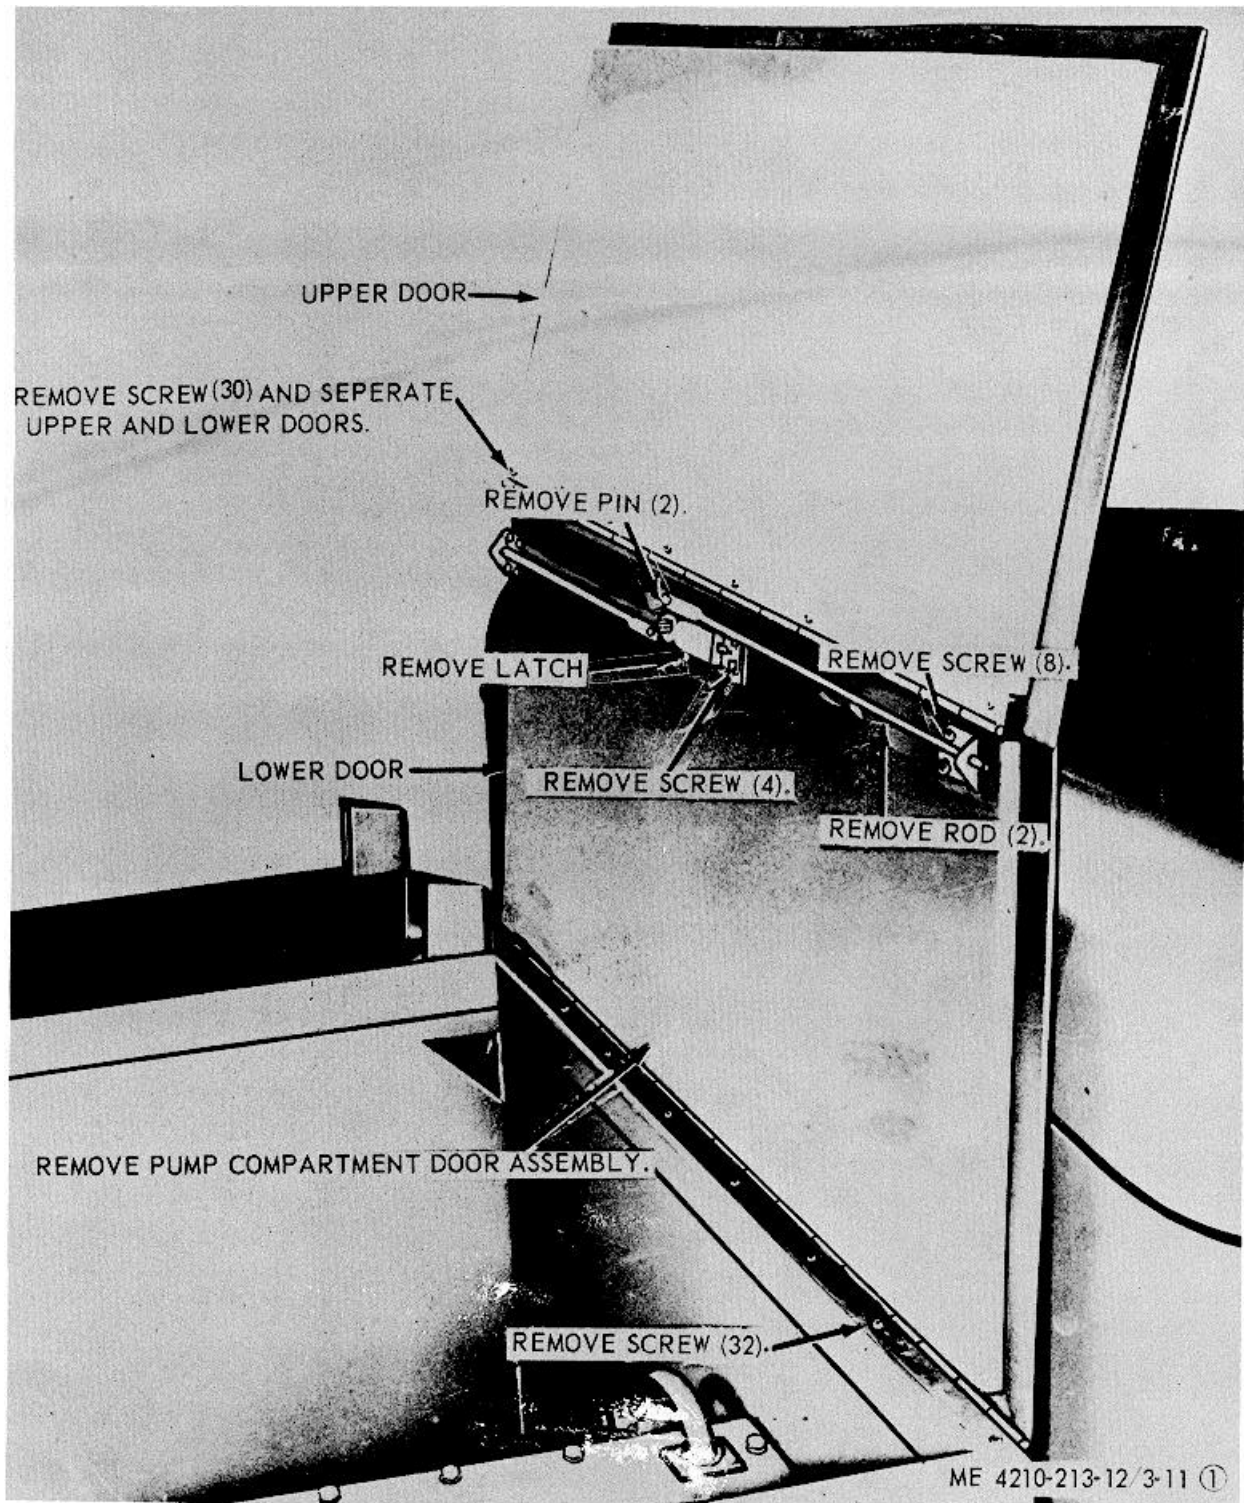

Figure 3-11. Pump and hose reel compartment door assemblies, removal and installation.
a. *Removal.* Refer to figure 3-11 and remove the doors from the compartments as necessary.
(1) Clean all parts with an approved cleaning solvent, and dry thoroughly.
(2) Inspect all parts for damaged or defective condition.
(3) Replace or repair damaged or defective parts as necessary.
c. *Installation.* Refer to figure 3-11 and install the pump and hose reel compartment door assemblies on the compartments as necessary.